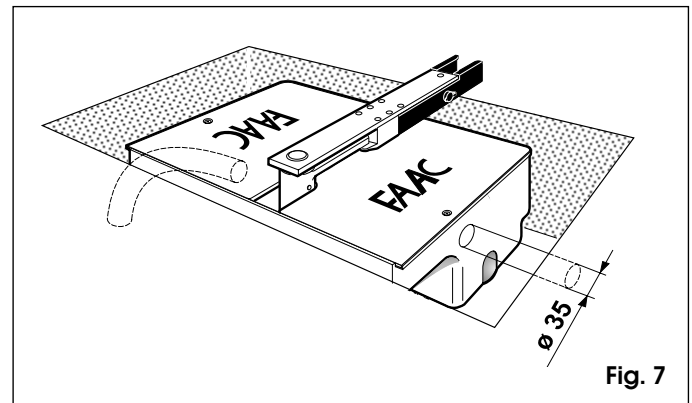

Fig. 7
- 3) Lay down a PVC tube of diameter 35 mm through which to pass a 4 core electrical cable. The tube must reach from the box to the control unit (fig. 7).
Lay a second tube to drain off rain water, from the box to the nearest drain (fig. 7).